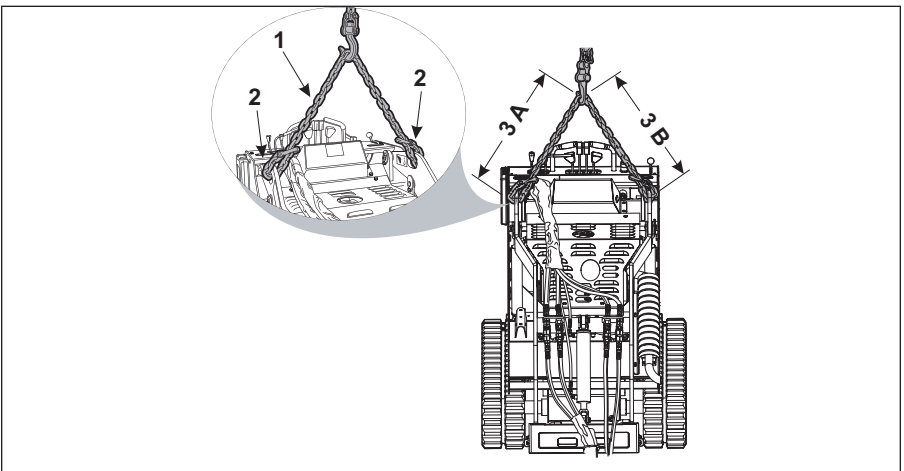

Figure 3-15 Machine Lifting
2. Use appropriate lifting chains (Item 1, Figure 3-15) that can safely lift 4,000 lbs (1820 Kg).
3. Route the chains through the lifting eyes (Item 2, Figure 3-15) located at the top of the boom arms.
4. Make sure that the length of chain on each side of the lifting point is the same (Item 3 A, Figure 3-15) is the same as (Item 3 B, Figure 3-15) so that the machine is lifted straight upwards.